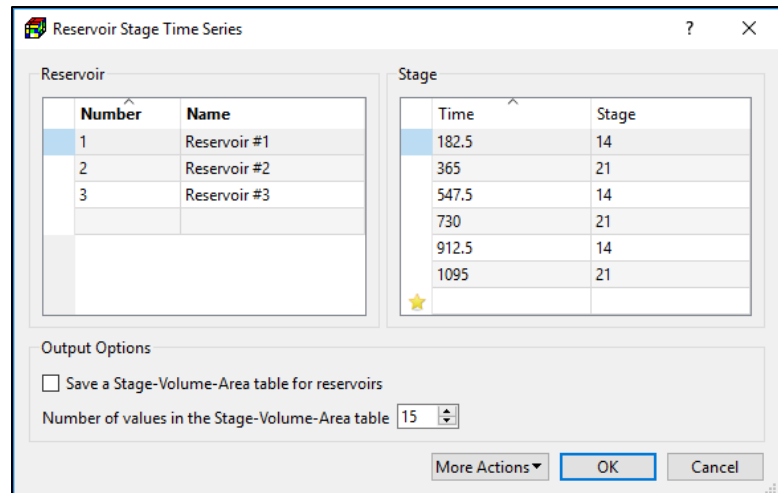

Figure 78. The Reservoir Stage Time Series dialog box
- **Stage:** Click this button to open the Reservoir Stage Time Series dialog box (Figure 78) for specifying the water table elevations of reservoirs.